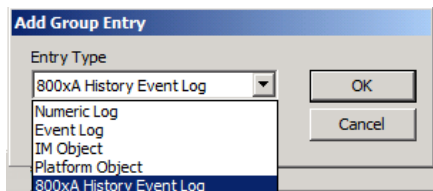

Figure 246. Add Group Entry dialog
2. Add Group Entry dialog box appears as shown in Figure 246.